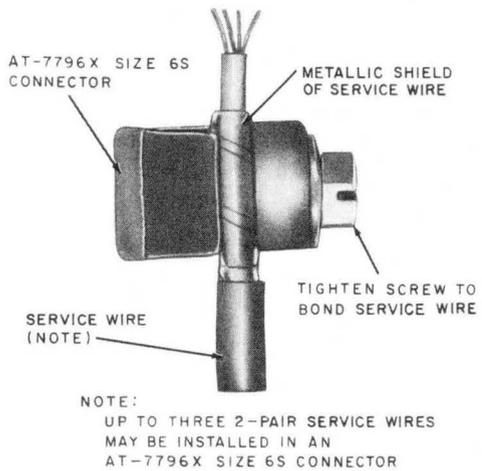
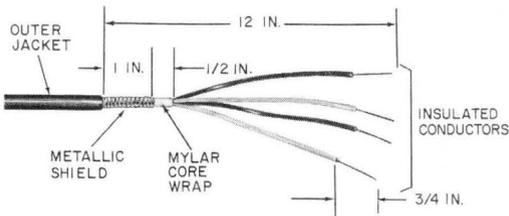

Fig. 4—Service Wire Installed in AT-7796X Connector
Fig. 7—Prepared Service Wire—RC4/72 Cable Closure
3.02 Install the metallic shield of the filled service wire in the AT-7796X (Fig. 4) and tighten the screw.
4.01 Prepare service wire as shown in Fig. 7 and install the metallic shield in the AT-7796X connector as shown in Fig. 4.
4.03 Prepare the service wire as shown in Fig. 9 and install the metallic shield in the AT-7796X connector as shown in Fig. 4.
5.05 Route service wire in E cable closure and secure in place with AT-7796X connector as shown in Fig. 4.